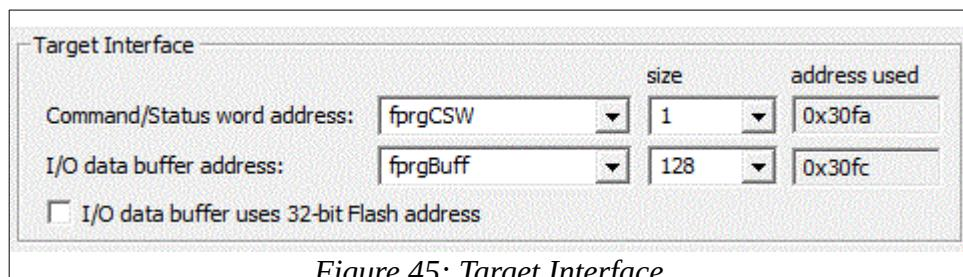
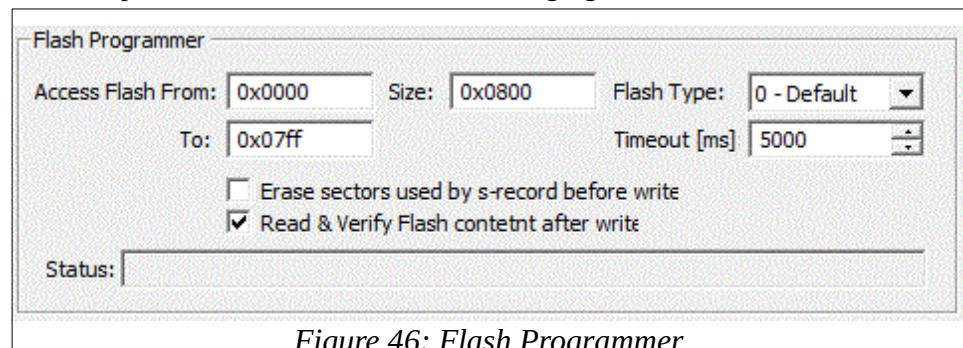

Figure 45: Target Interface
Figure 46: Flash Programmer
- Make sure the top is all set as in Figure 45 and in the lower part as in the figure 46.